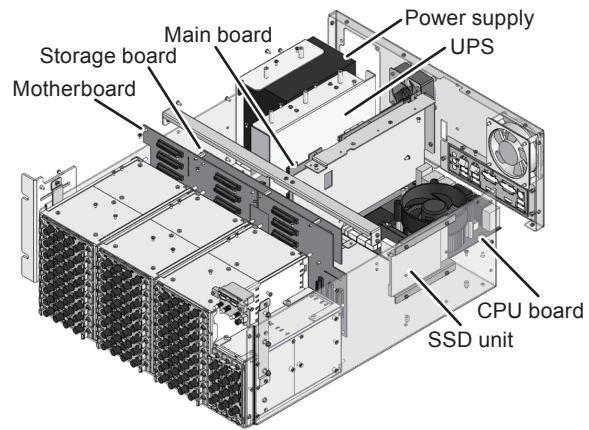

Fig. 2. MR8740T structural diagram (exploded view).
3) *Construction:* Fig. 2 illustrates the MR8740T's construction. Like the previous model, the MR8740, the MR8740T is designed to fit inside a 19-inch rack (4U height). The color of the enclosure has been changed from a warm pearl gray to cool gray so that it better fits into the R&D environment. In this way, Hioki has standardized the enclosure color of the MR6000, MR8847A, and MR8827.